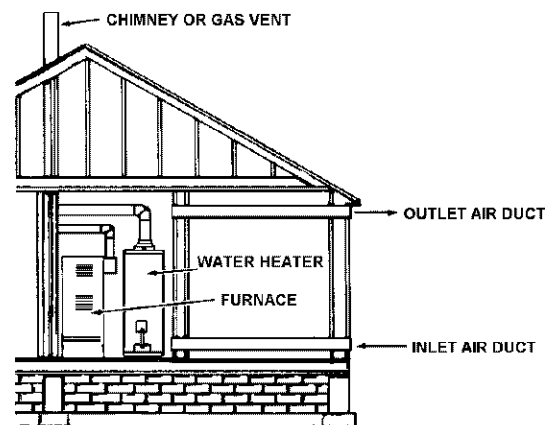

FIGURE 13.
- When communicating with the outdoors through horizontal ducts, each opening shall have a minimum free area of 1 square inch per 2,000 BTU per hour (11 cm²/kW) of total input rating of all equipment in the enclosure, see Figure 13.
- When ducts are used, they shall be of the same cross-sectional area as the free area of the openings to which they connect. The minimum short side dimension of rectangular air ducts shall not be less than 3 inches (76.2 mm), see Figure 13.